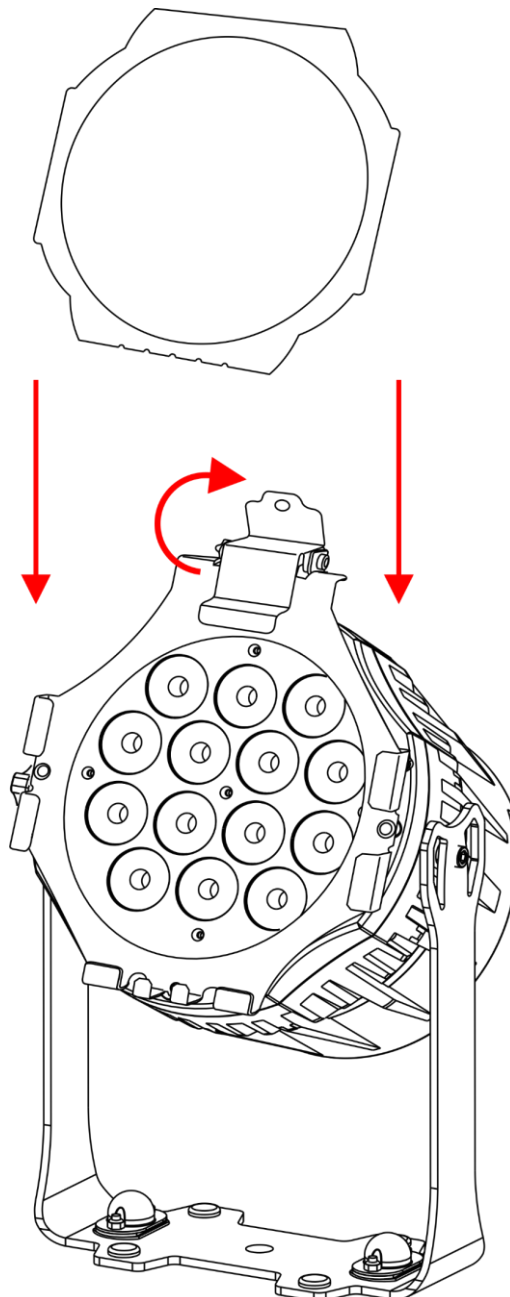

Fig. 10
- 03) Slide the filter frame into the accessory frame. See Fig. 10.